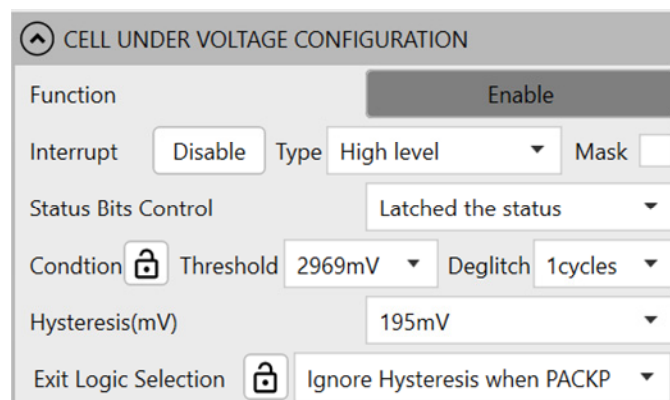

Figure 25: Cell UV Configurations
20. Set the cell under-voltage (UV) parameters (see Figure 25).